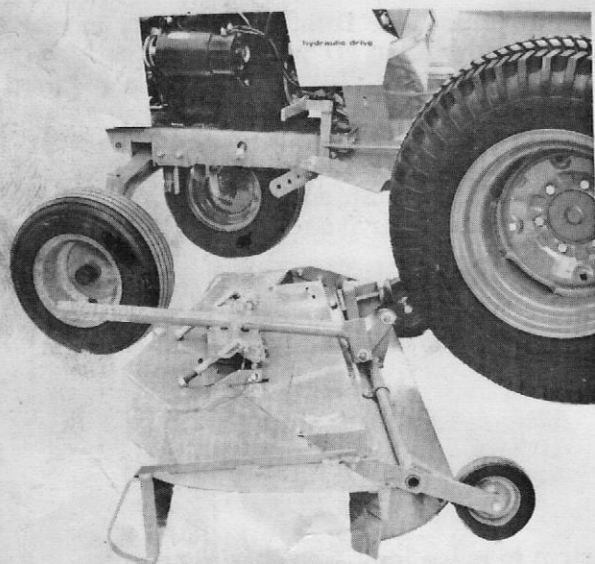

Figure 13. Positioning the Mower Under Left Side of Tractor
6. Slide the mower under the tractor from the left side as illustrated in Figure 13.